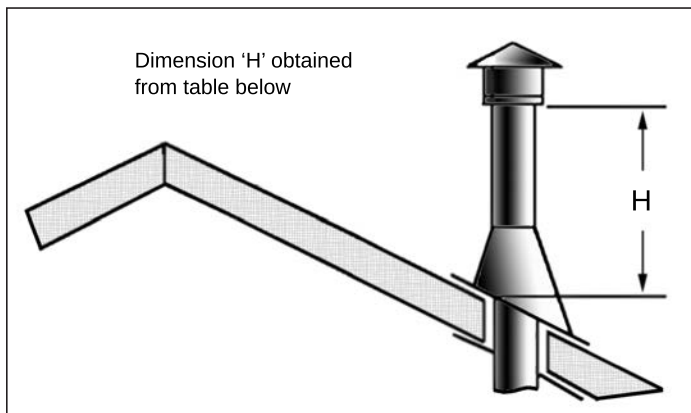

Figure 59: Height of Vertical Termination; Reference Table 8.
- STEP 8.** Continue to add pipe sections until the height of the vent cap meets the minimum code requirements. Refer to Figure 59 and Table 8. Note that for steep roof pitches, the vent height must be increased. In high wind conditions, nearby trees, adjoining roof lines, steep pitched roofs, and other similar factors can result in poor draft, or down drafting. In these cases, increasing the vent height may solve the problem.